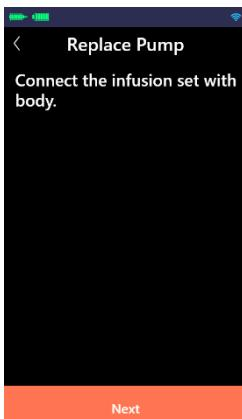

Figure 11.6
**(6)** Connect the infusion set with body (as shown in Figure 11.6). When completed, click "Next".